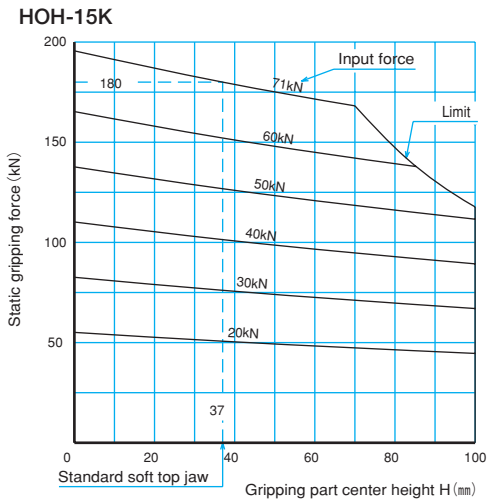

Fig. 8
- Keep the height of the top jaw within the range of the gripping force limit table. (Refer to Fig.8)
The required static gripping force and input force required at the rotation speed in use are predicted from Fig. 8, however, it contains a number of hypothetical conditions. Therefore, it is necessary to only use these as reference, and the processing conditions must be determined after trial cutting without fail.